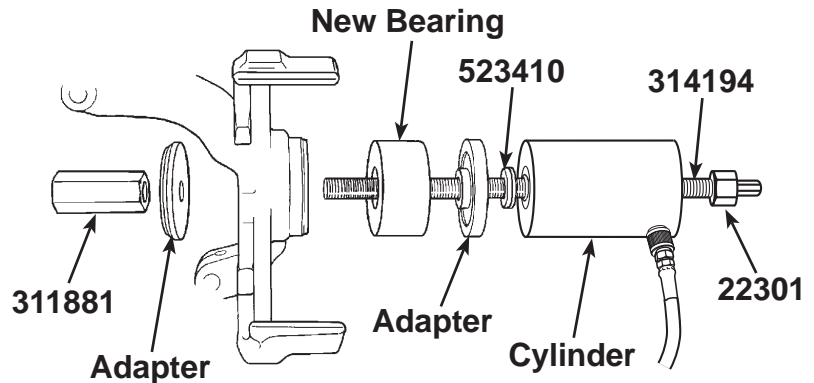
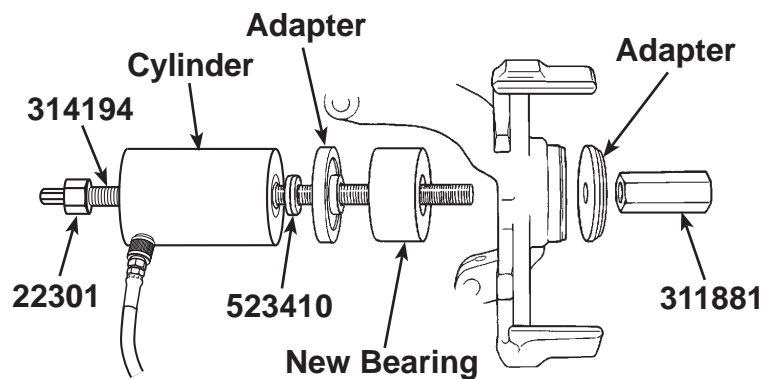

Figure 7
Figure 8
1. Lightly lubricate the new bearing, and position it for installation with the tool components assembled as shown in Figure 7 for outboard installation or Figure 8 for inboard installation.